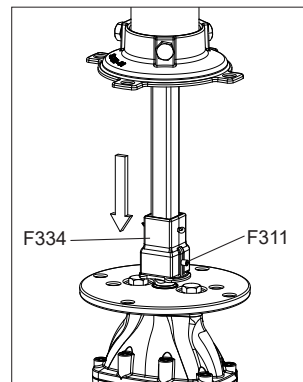

Fig. 4C
5. Position the post indicator Wrench Nut Adapter (#334) onto the valve wrench nut and tighten the Wrench Nut Adapter Setscrew (F311) with a 15/64", (6mm) Allen wrench (key). (See Fig.4C)